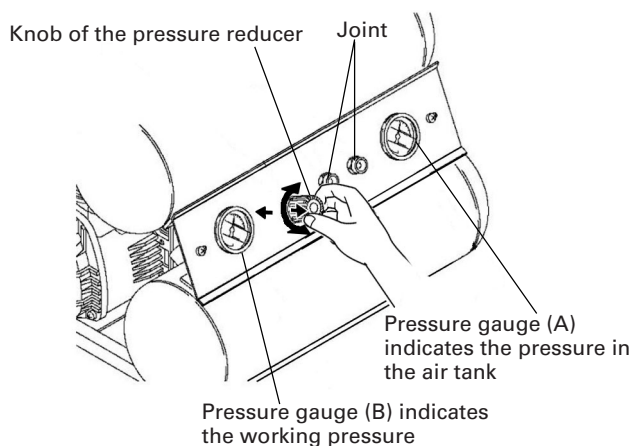

Fig. 6
and Fig. 6). The screw size of the joint is 3/8". Use an air coupler which has the same screw size.
A pressure gauge (B) is provided to know when the required pressure is reached, lock the knob by pushing it down firmly (Refer to Fig. 6).